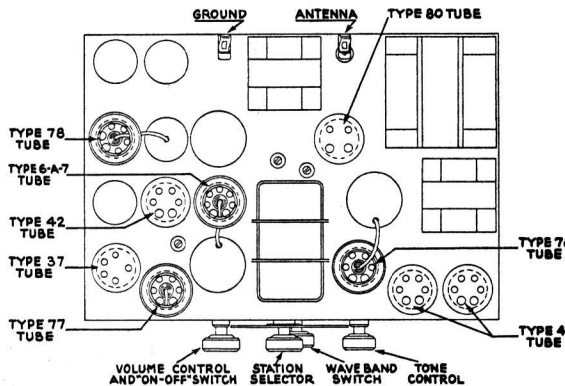

Fig. 1—Top View of Chassis
The intermediate frequency compensating condensers should be adjusted first. The intermediate frequency is 175 kilocycles. The location of these compensating condensers is: (a) 1st, I. F. PRIMARY—(23)—underneath the chassis. May be reached through hole in chassis sub-base to rear, left, of Tuning Condenser Assembly (5). See Figure 1. (b) 1st, I. F. SECONDARY—(25)—at rear of chassis, and accessible therefrom. Mounted near (55) and (56) electrolytic condensers. (c) 2nd, I. F. PRIMARY—(28)—at rear of chassis. Accessible from rear. Mounted next to (29). (d) 2nd, I. F. SECONDARY—(29)—underneath the chassis. Accessible through hole in sub-base, located between Type 42 (Driver) and Type 77 (1st, A. F.). See Figure 1.
Next, the "OSC.; H. F." (19), "DETECTOR" (11), and "ANT.; H. F." (8) compensating condensers should be adjusted in the order given. (15) and (11) are mounted upon the Tuning Condenser Assembly (6). (8) is located underneath the chassis, accessible through hole in sub-base at rear of Tuning Condenser Assembly (5),—between Tuning Condenser and Type 80 (Rectifier). See Figure 1. The signal generator is adjusted to a frequency of 1500 K. C. for (15), to 1400 K. C. for (11) and (8).